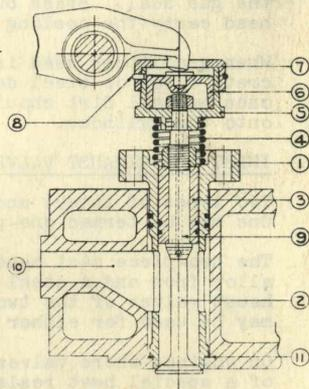

FIG. H-1
The poppet type starting air valve, illustrated in Fig. H-1, is actuated from the camshaft by means of a lifter, pushrod and rocker, and is rendered inoperative while the engine is running by a pneumatic piston arrangement between the top of the valve stem and rocker. Fig. H-1 shows the device in the inoperative or cutout position, as it is when the engine is running. Valve (2) is held closed against its seat by spring (4), and piston (6) is down against cylinder (5), held so by a spring under the lifter. This spring holds the lifter and its latch up clear of the camshaft, so that as the cam rotates it does not contact the latch roller. (See description of latches under paragraph 28.) The pushrod is raised, rotating the rocker and holding piston (6) down against the cylinder as shown.
Referring to Fig. H-1 the valve assembly is contained in cage (1) which is sealed to the head by copper gasket (11) at the bottom and by piston rings at the top and is held in place by two studs. Bronze bushing (3) works in the cage and is sealed against the starting air pressure by two piston rings. Stop (7) is threaded onto cylinder (5) and is locked in place by snap ring (8), the end of which is bent in and projects into a drilled hole in the cylinder. If either stop or cylinder are replaced this hole must be drilled in the cylinder, in line with the hole in the stop when the two parts are screwed tightly together. Use a 13/64" drill. The piston travel should be from .300" to .330", and may be adjusted by facing off the top of either the cylinder or the piston.
On the smaller bore engines the starting air rocker is mounted eccentrically on the rocker shaft. When starting the engine an air ram described in Section R turns the rocker shaft and lowers the air start rocker until contact is made with the air start cam. Consequently on these engines the pneumatic piston arrangement described in paragraph 5 is not needed and is omitted, the rocker bearing directly on the valve stem. On 11½" bore engines the valve is mounted in a cage similar to that shown in Fig. H-1, while on the 10" bore engine the valve is guided and seated directly in the head. Hand oil the air start valves occasionally as described in paragraph 5.